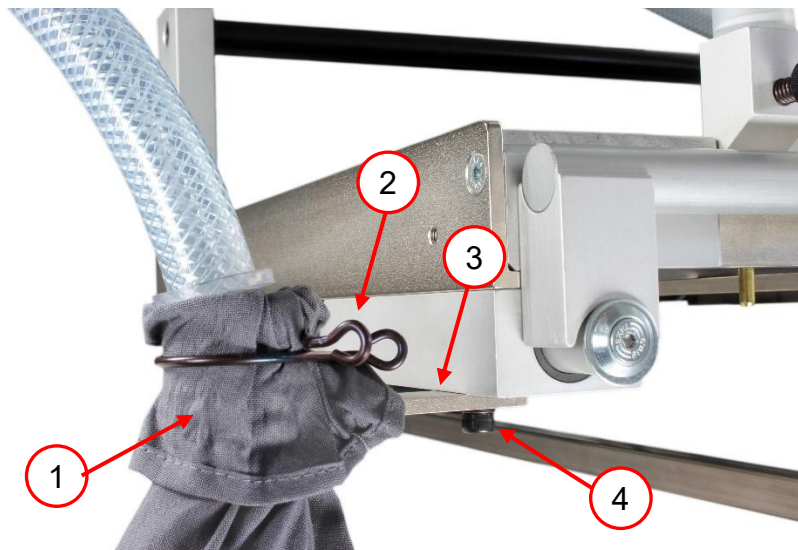

Figure 25 Fitting the VARGA VA 11 chip bag
7. Unscrew the screw with snap ring (4, Figure 25) from the table underside. Use it to attach the bag holder (3, Figure 25).
8. Pull the chip bag (1, Figure 25) from below through the opening of the bag holder and secure the chip bag with the spring (2, Figure 25).